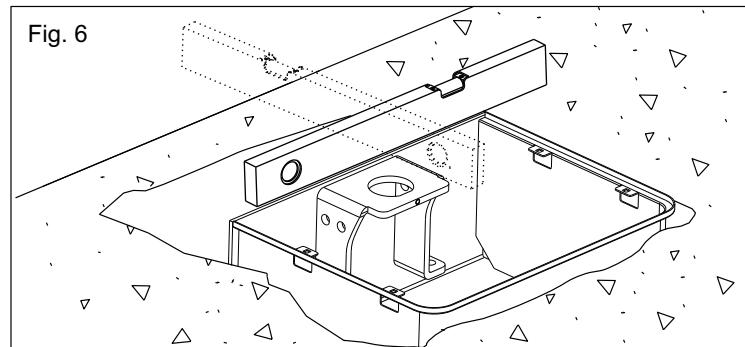
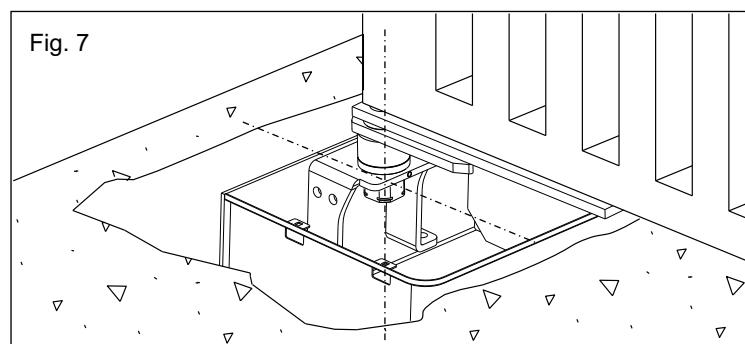

Fig. 6
Fig. 7
- 2.3. Before concreting the carrying box, use a level to make it perfectly horizontal to the ground (Fig. 6) and perpendicular to the axis of the gate (Fig. 7).